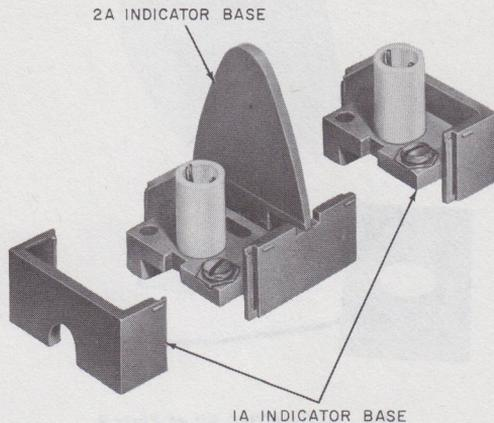

Fig. 3—1A and 2A Indicator Bases Used to Form a 2-Lamp Indicator
3.05 The 1A base separates into two parts which normally fit together with interlocking lip and grooves. This separation allows the insertion of one or more supplementary lamp units (2A base to create multiple lamp indicators (Fig. 3).